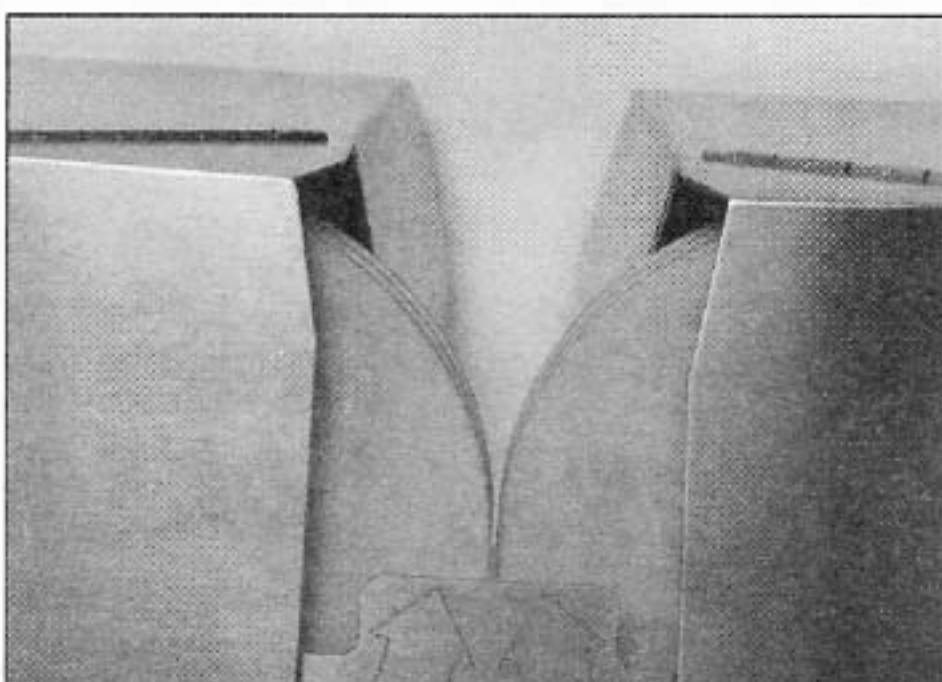
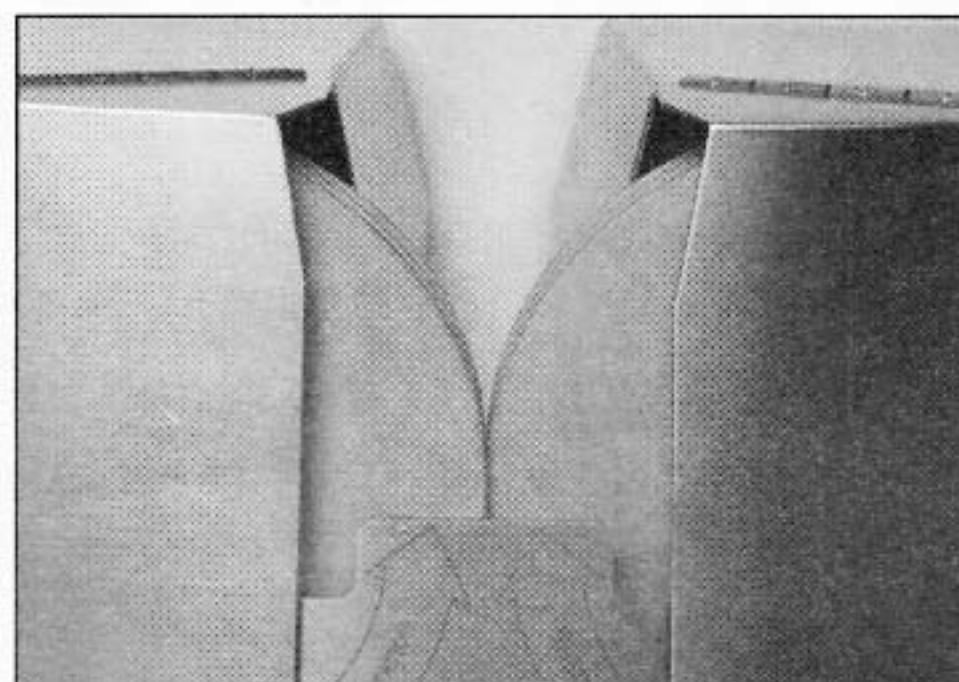
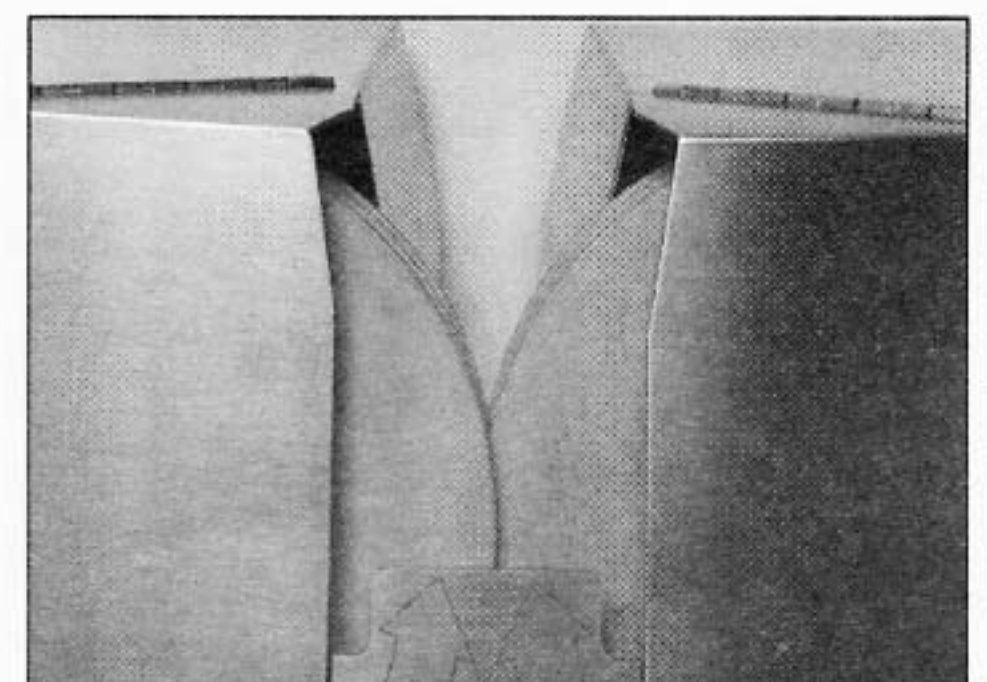

Fig. 5
Fig. 6
Fig. 7
Turn Hand Wheel COUNTERCLOCKWISE until Honing Wheels are slightly separated. (You can see between them.) (See fig. 5).
Turn Hand Wheel CLOCKWISE until you cannot see between the Honing Wheels. (See fig. 6). Look at the Hand Wheel to see which of the numbers is facing you. Turn Hand Wheel two complete turns CLOCKWISE until the number is back in the same position (See fig 7).
Turn Hand Wheel COUNTERCLOCKWISE until Honing Wheels are not overlapped (can see between them)(see fig. 5). Turn Hand Wheel CLOCKWISE until the Honing Wheels begin to overlap (cannot see between them) (see fig. 6). Using one of the numbers on the Hand Wheel as a reference point, turn Hand Wheel two complete turns CLOCKWISE (see fig. 7). The HR8 Honing wheels are now ready to begin sharpening.
8. Turn Hand Wheel **COUNTERCLOCKWISE** until Honing Wheels are not overlapped (can see between them)(see fig. 5). Turn Hand Wheel **CLOCKWISE** until the Honing Wheels begin to overlap (cannot see between them) (see fig. 6). Using one of the numbers on the Hand Wheel as a reference point, turn Hand Wheel two complete turns **CLOCKWISE** (see fig. 7). Turn Speed Knob to the sharpen position. The HR8 Honing Wheels are now ready to begin sharpening.
Turn Hand Wheel COUNTERCLOCKWISE until Honing Wheels are not overlapped (can see between them)(see fig. 5). Turn Hand Wheel CLOCKWISE until the Honing Wheels start to overlap (cannot see between them)(see fig. 6). Using one of the numbers on the Hand Wheel as a reference point, turn the Hand Wheel two complete turns CLOCKWISE (see fig. 7).